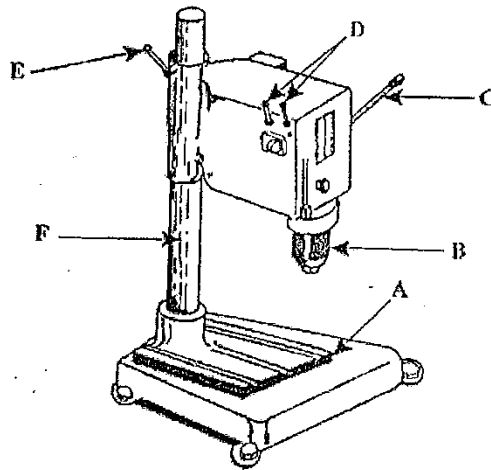

Figure 2
13. (a) **Figure 2** shows a drawing of a bench drilling machine.